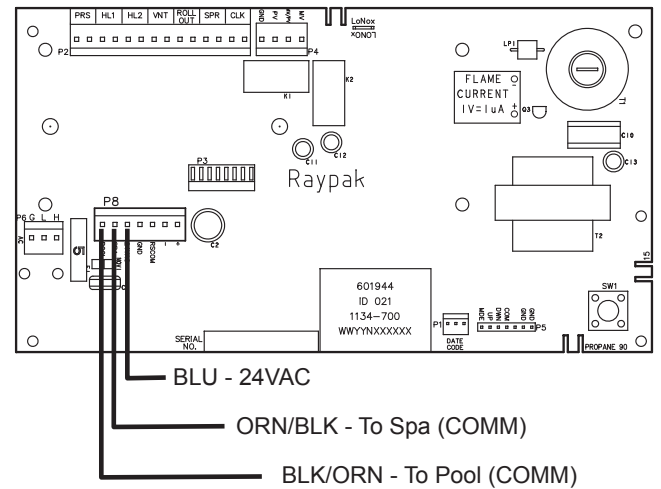

Figure 56. 3-Wire Remote Harness Installation on the P8 Connector of the Board
5. Install the “Remote Interface Harness” to the P8 connector and turn power ON to the heater. See **Figure 56**.